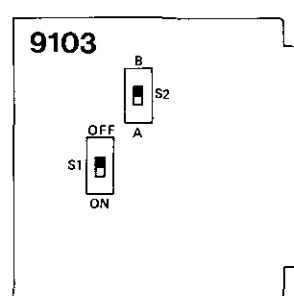

figure 2. Switch locations
3.04 The 9103 contains only two option switches. Their locations are shown in figure 2. Switch S1, when set to the ON position, connects resistance battery to the sleeve leads for use in central offices (such as Leich) where this is required. The OFF position is selected for all other central office types. Switch S2 adapts the 9103 for use with ring generator on either the tip (+) or ring (—) side of the business line. Position A options the module for ring-connected generator; position B options the module for tip-connected generator.